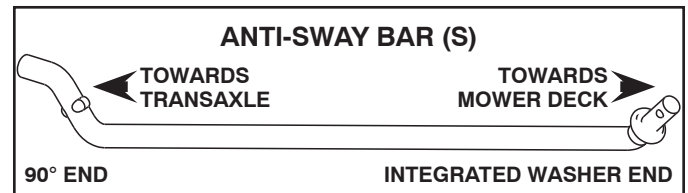

Fig. 7A
5. INSTALL ANTI-SWAY BAR (S) (IF EQUIPPED) (See Fig. 7A - 7C)